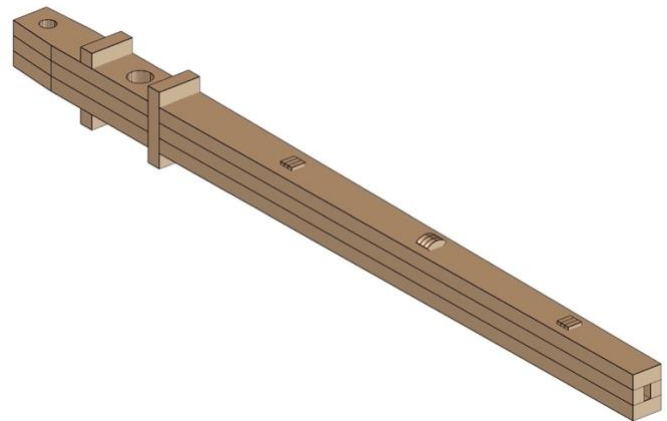

Fig. 57
- *Fig. 57* shows the completed process.